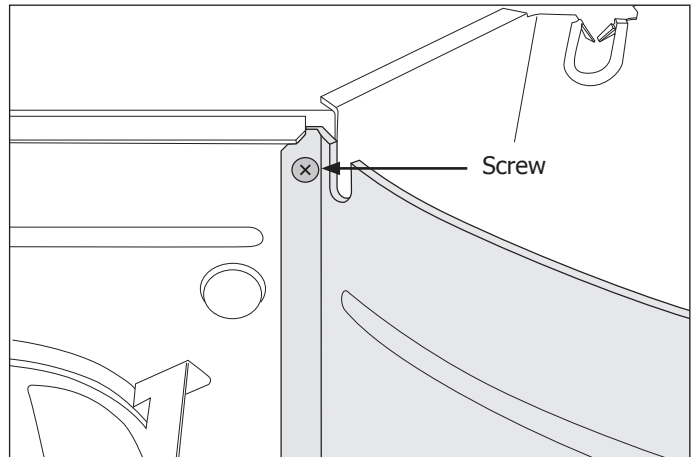

Figure 4-65.
5. Extract screw from back side of bulkhead that secures the condenser fan shroud to the bulkhead. (See Figure 4-65)